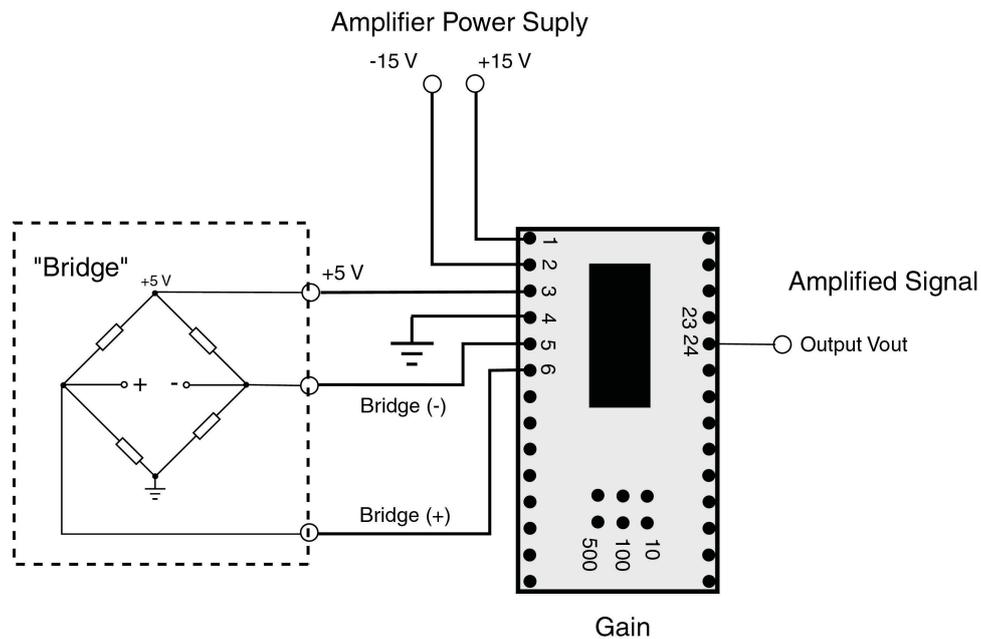

Figure 2: Lab amplifier connected to the deflection bridge.
- Connect the output of the deflection bridge to the lab amplifier (see Fig. 2).